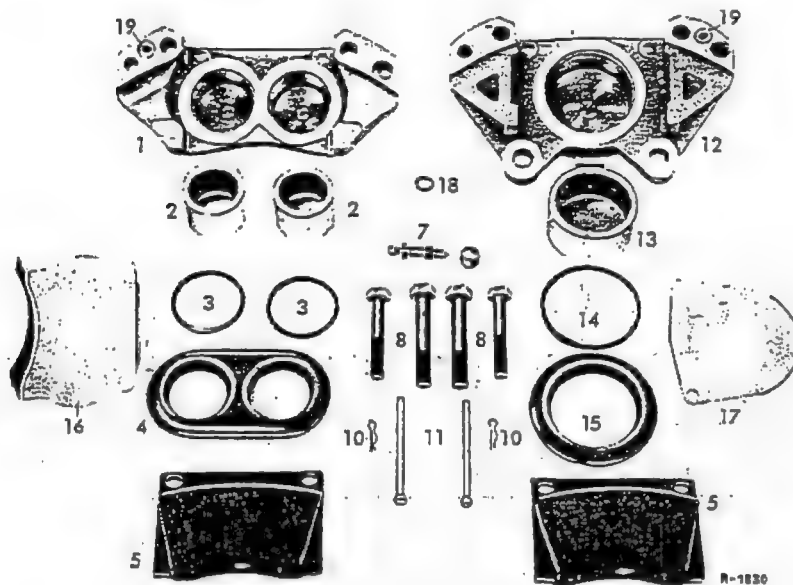

Fig. 42-12/2
2. Remove the friction pads (5). To do this, remove the spring clips (10) from the retaining pins (11) and pull out the retaining pins and friction pads (Fig. 42-12/1). See also Job No. 42-10.
3. On the 1st and 2nd versions disconnect the connecting line. Insert a piece of wood (3) approx. 20 mm thick in the caliper gap (1) and force the piston (5) out of the caliper with compressed air (approx. 0.5 atm.). Then remove the piece of wood and the piston (Fig. 42-12/3).